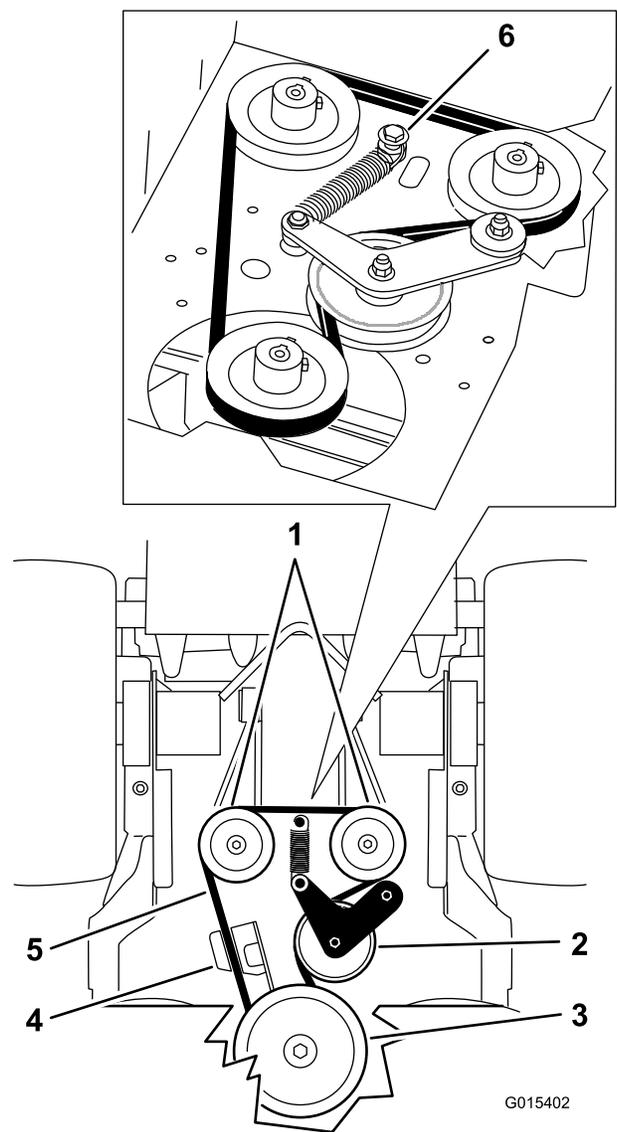

Figure 67
5. Remove the shoulder bolt, the nut, and the washer from the engine deck and connected spring (Figure 67).
6. Remove the pump-drive belt (Figure 67).
8. Install the spring onto the shoulder bolt and washer, and connect it to the engine deck with the nut (Figure 67).